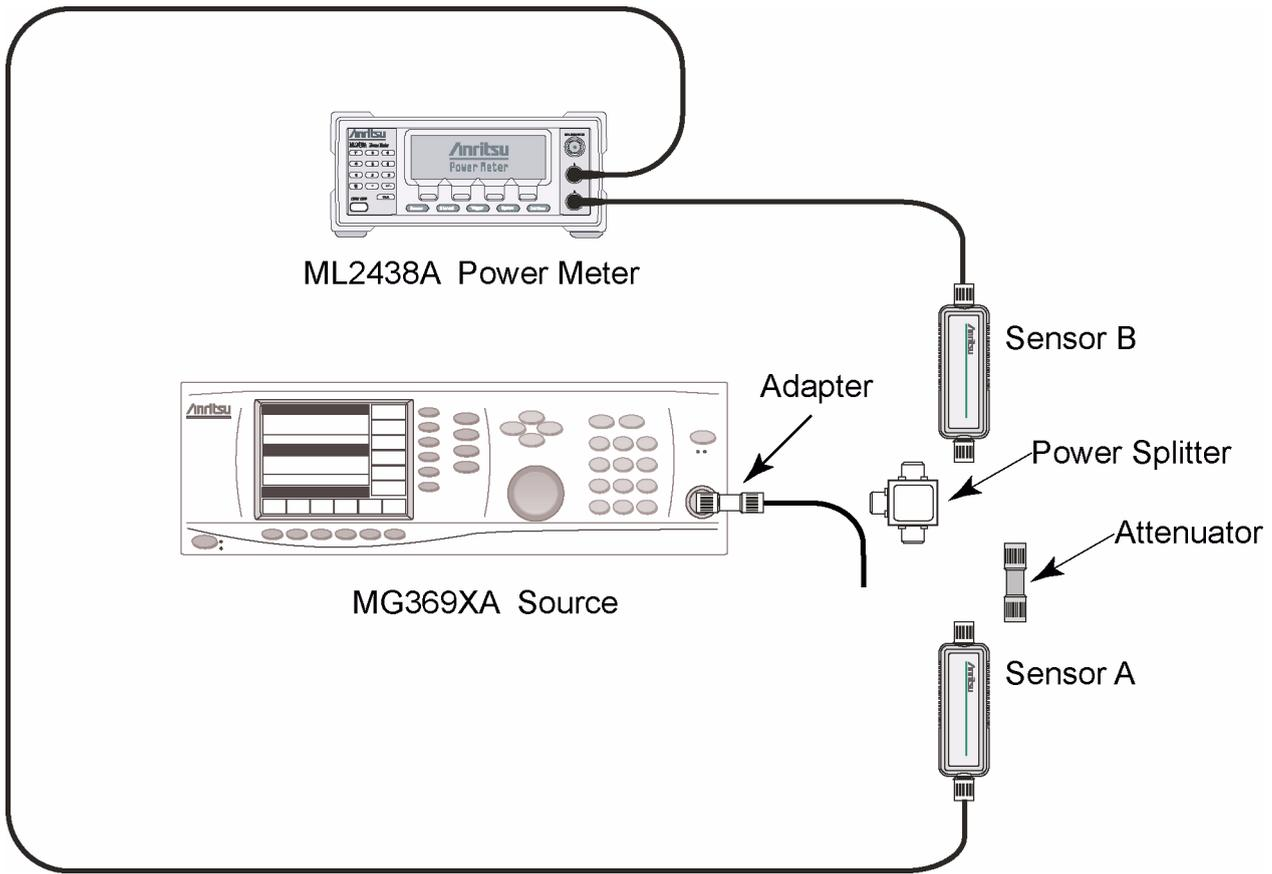
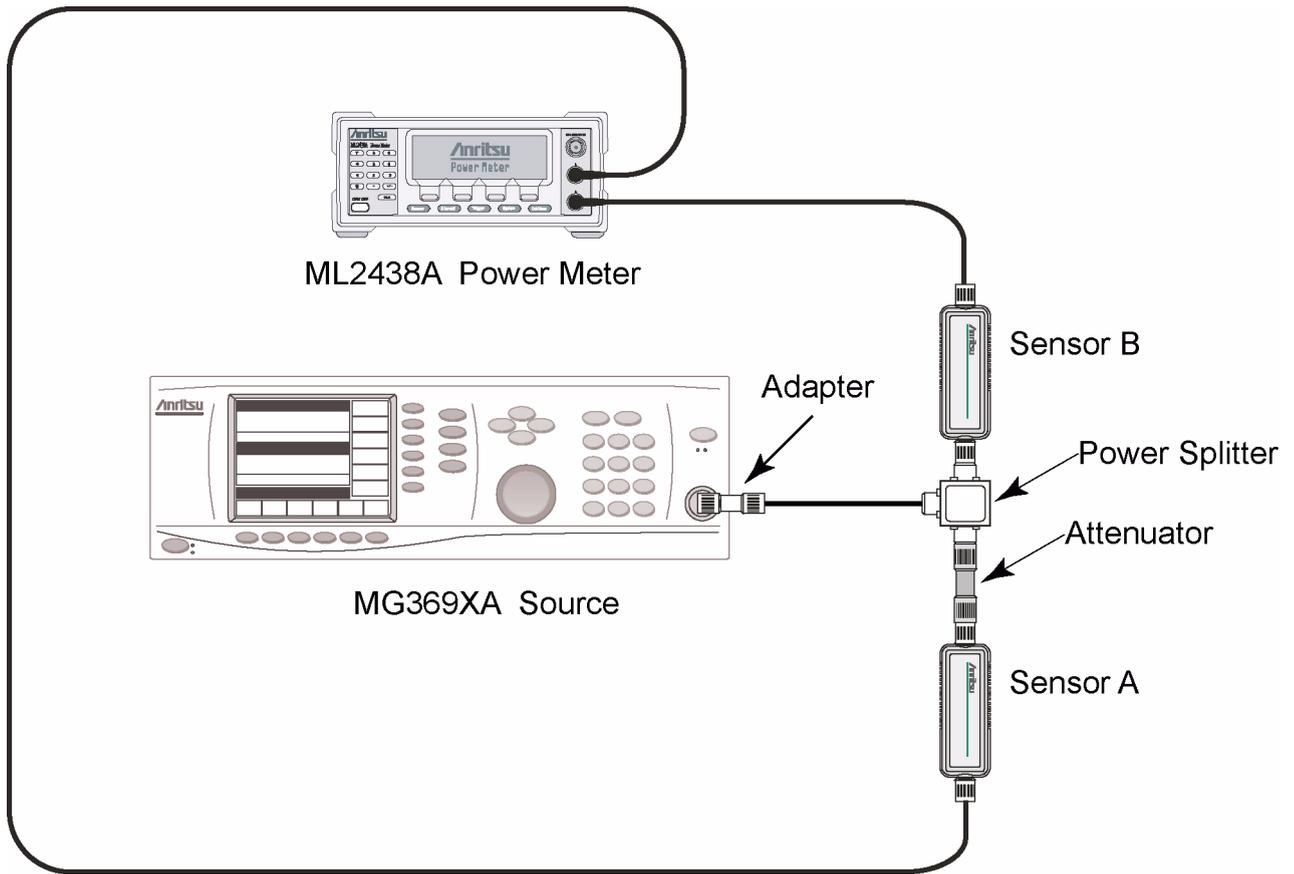

Figure 2-1. 50 MHz Amplitude Accuracy Sensor Calibration
Figure 2-2. 50 MHz Amplitude Accuracy Test Setup
Refer to Figure 2-1 and Figure 2-2 for initial test connections.
3. Connect the power sensors to the power meter and calibrate the sensors, as shown in Figure 2-1.
4. Use an RF cable to connect the power splitter to the MG3692A output and to connect Sensor B to one of the power splitter outputs, as shown in Figure 2-2.
5. Install the 10 dB Fixed Attenuator to the other power splitter output, and then connect Sensor A to the end of the Attenuator, as shown in Figure 2-2.
Refer to Figure 2-1 on page 2-16 and Figure 2-2 on page 2-17 for initial test connections.
3. Connect the power sensors to the power meter and calibrate the sensors. Refer to Figure 2-1 on page 2-16.
4. Connect the power splitter to the MG3692A output and connect Sensor B to one of the power splitter outputs as shown in Figure 2-2 on page 2-17.